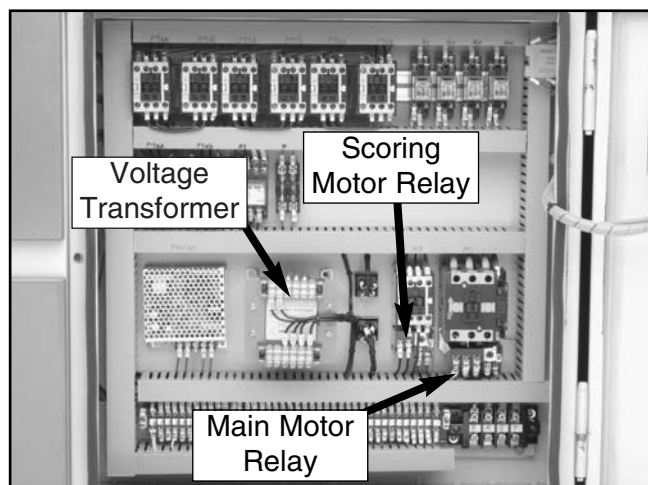

Figure 2. Inside view of the control panel.
2. Open the electrical panel and locate the voltage transformer shown in **Figure 2**.